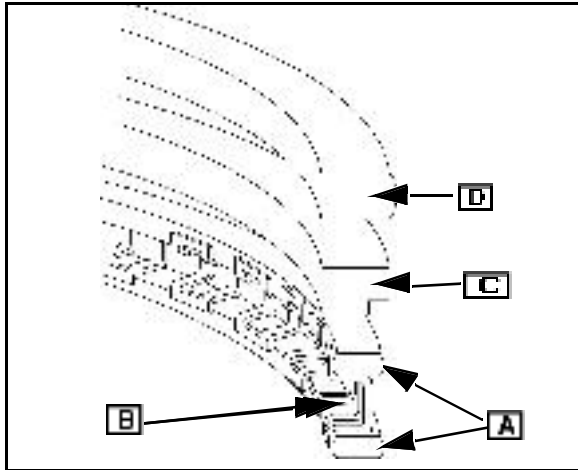

Fig. 14
1. Install the oil control rings (A) and expander (B).
2. Install the center ring (C) with groove down, as shown.
3. Install the top ring ([D] Fig. 14).